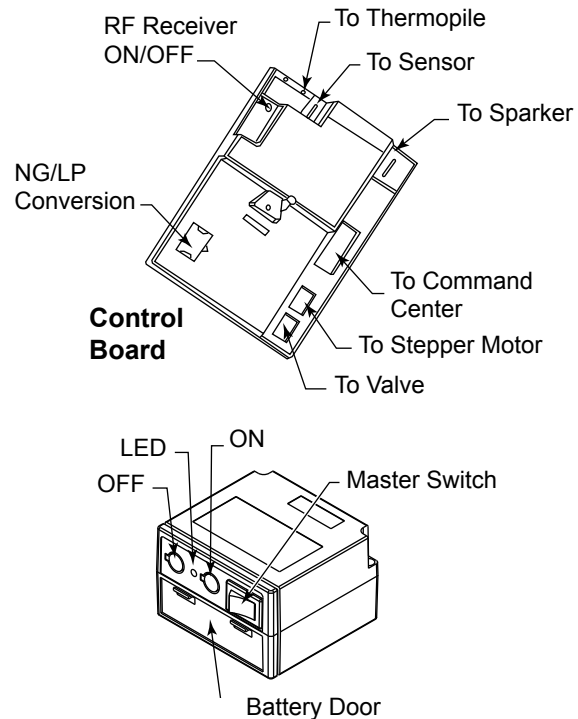

Figure 48 -
The wall switch wire connection is located off the 2 ft. wire harness from the control box to the command center. *Figure 48.* The connection is labeled "Wall Switch". Unplug the male and female connectors and connect the two (2) low voltage wires not provided. Run wire to desired location on wall. Up to 50 ft. of 18 ga. wire may be used if necessary. Attach wires to wall switch. Mount the wall switch in to junction box and screw on cover.